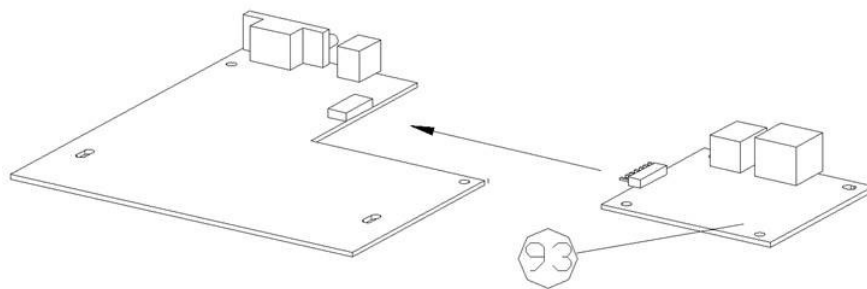

Figure 10.1.4
- Pull out the Ethernet card (93) from the main board, and then insert the new Ethernet card (93) to main board as shown in Fig. 10.1.4.